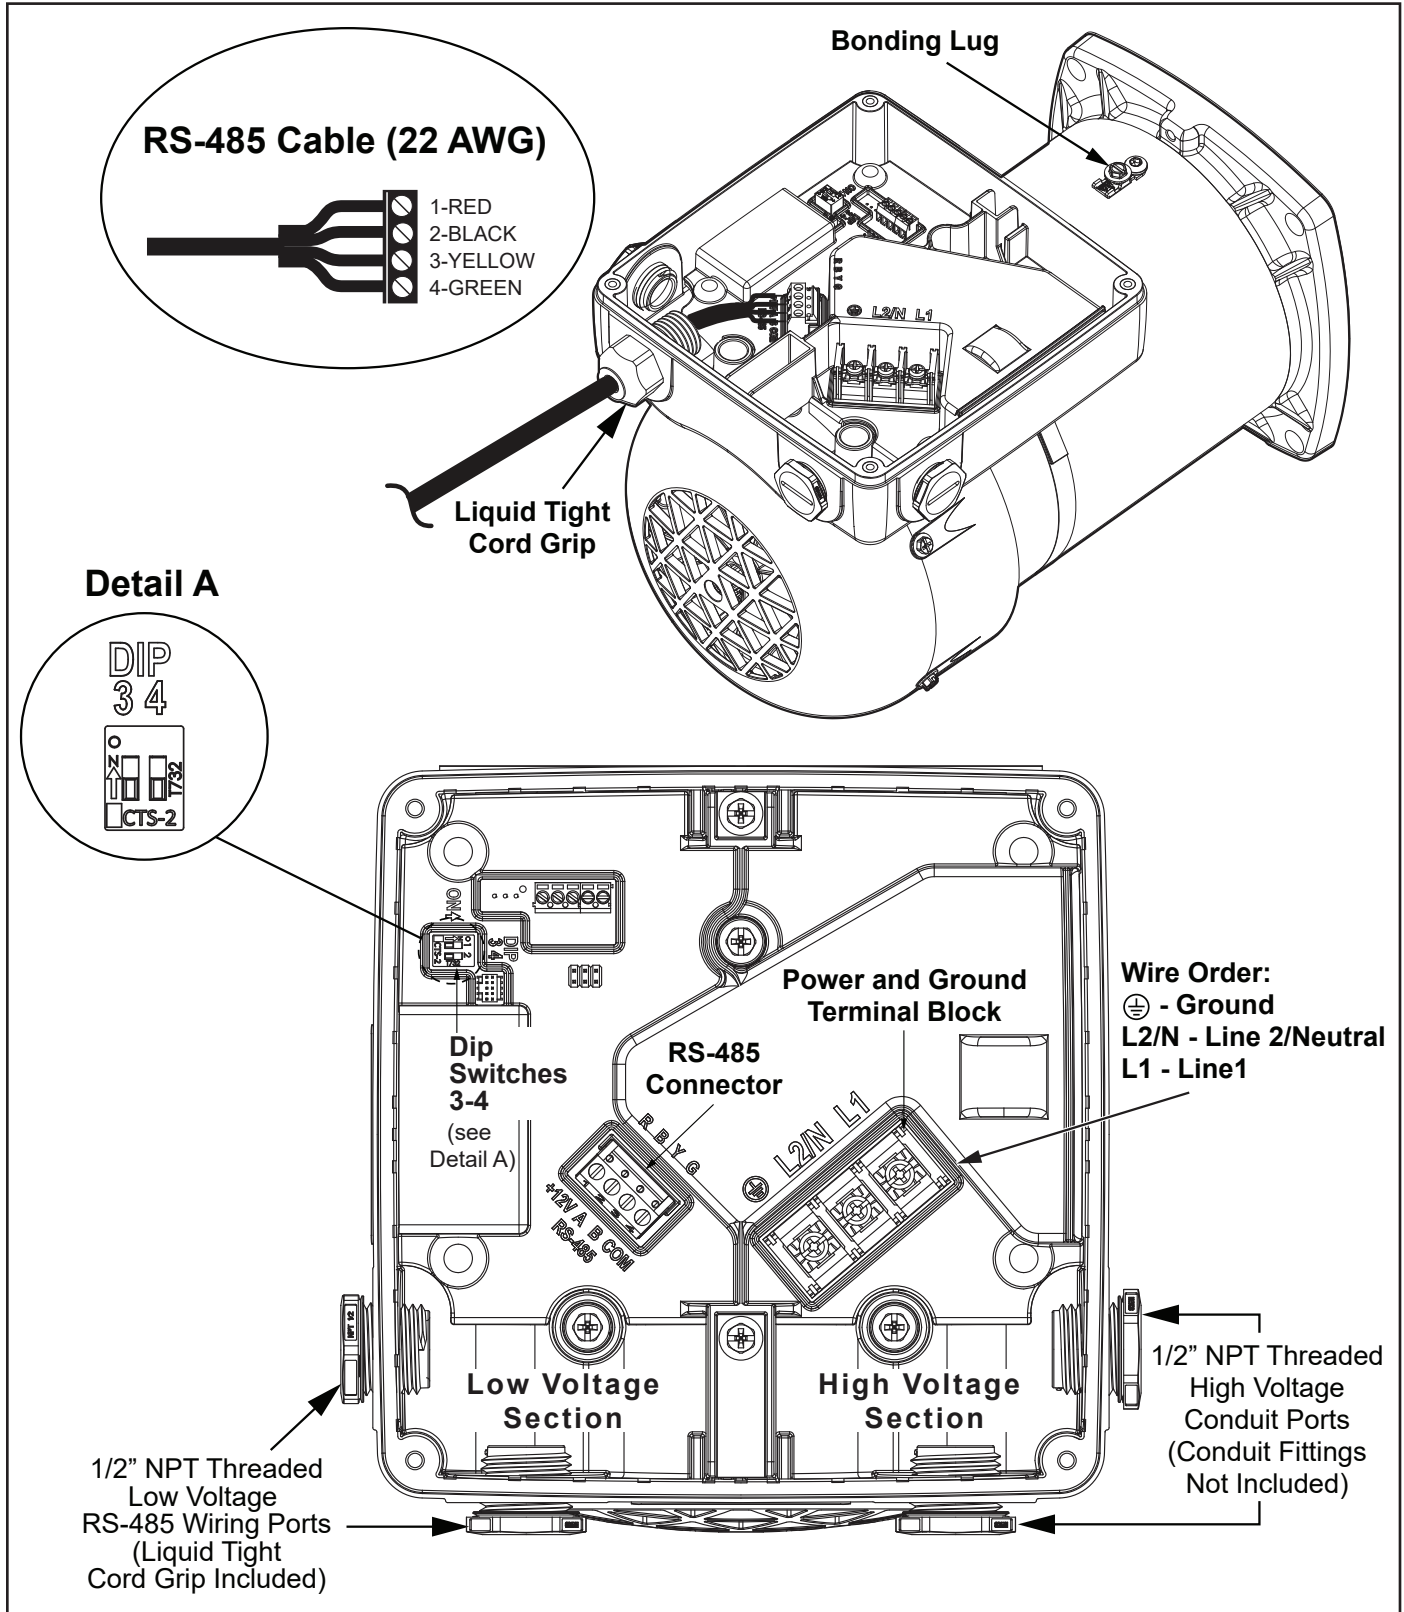

Figure 8. Wiring Diagram (115v/230v Main Power and RS-485 Connection)
In addition to being properly grounded as described in the *Electrical Wiring* section, and in accordance with the requirements of the National Electrical Code (NEC), or in Canada the Canadian Electrical Code (CEC), the pump motor must be bonded to all metal parts of the swimming pool, spa or hot tub structure and to all electrical components and equipment associated with the pool/spa water circulation system. The bonding must be accomplished by using a solid copper conductor, No. 8 AWG or larger. In Canada No. 6 AWG or larger must be used. Bond the motor using the external bonding lug provided on the motor frame. See Figure 8.
The low voltage sections provides two (2) 1/2" NPT conduit ports (threaded). A liquid tight cord grip is included (see Figure 8).
Ensure power to the pump is disconnected and remove the access cover on the motor. Connect the RS-485 cable through the liquid tight cord grip fitting supplied as shown in Figure 8. Wire the cable to the RS-485 connector in order Red(1), Black(2), Yellow(3), Green(4). Secure the access cover back onto the motor and resupply power.